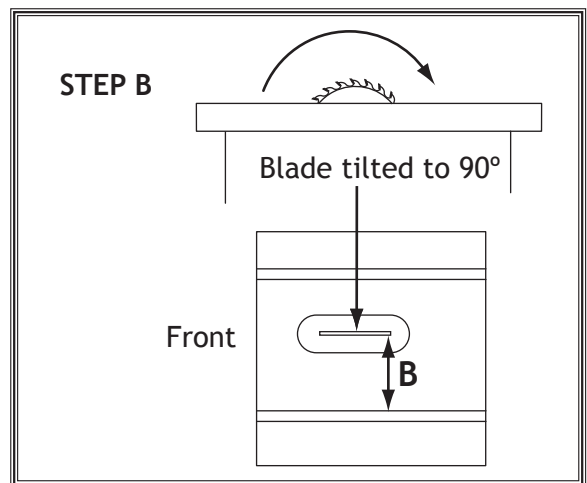

Figure 104. Making second slot-to-blade measurement at 90°.
5. Slide adjustable square down to other end of table insert and compare distance from marked blade tip to end of adjustable square, as shown in **Figure 104**.